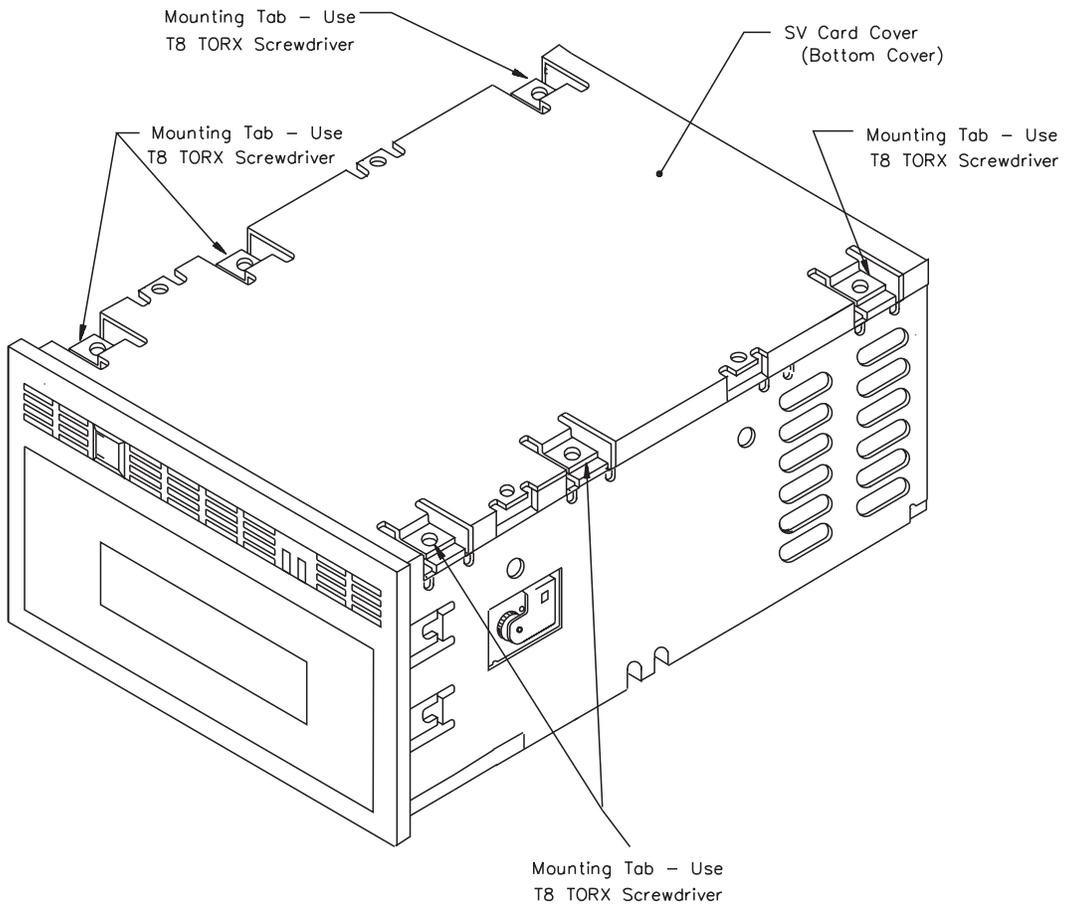

Figure 5-1
2. Use a T8 TORX screwdriver to remove the six screws that hold the SV card cover to the main housing. Figure 5-1 shows the locations of these screws.